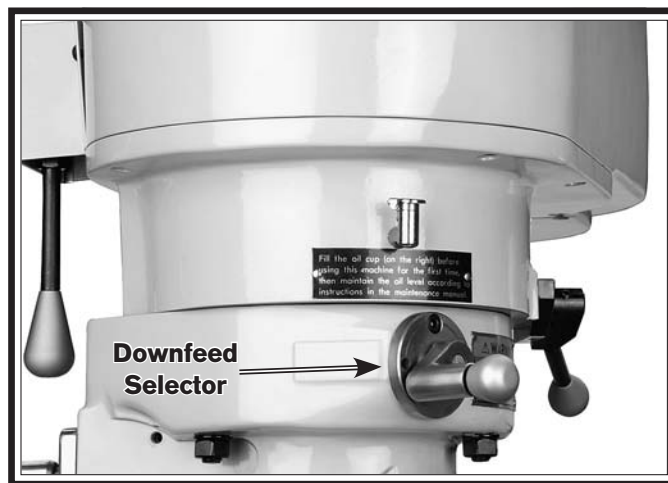
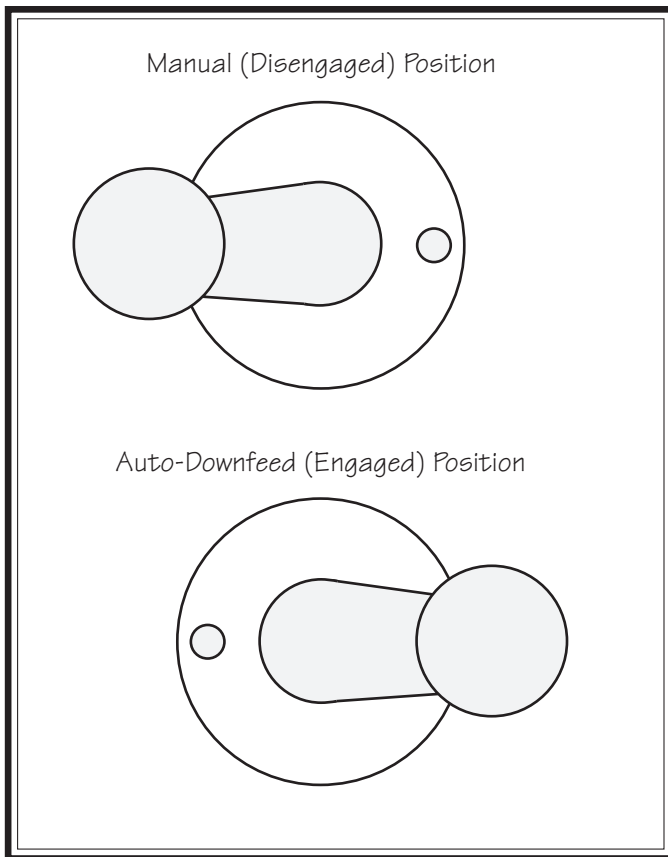

Figure 36. Downfeed selector in the manual (disengaged) position.
Figure 37. Downfeed selector positions.
2. To set the downfeed for manual control, pull the downfeed selector knob out, then rotate it clockwise until the selector pin under the knob seats in the forward manual (disengaged) position, as shown in **Figure 36** and illustrated in **Figure 37** on the next page.